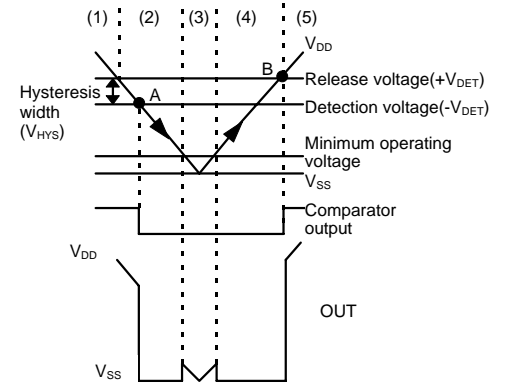

Figure 14
Hysteresis width is the voltage difference between a device's detection voltage and its release voltage (see Figure 14. V_{HYS}=B-A). By giving a device hysteresis, erroneous toggling of the output due to noise at the input is avoided.
- (3) When V_{DD} falls below the minimum operating voltage, the output becomes undefined. However, output will revert to V_{DD} if a pull-up has been employed.
- (4) V_{SS} will again be output when V_{DD} rises above the minimum operating voltage. V_{SS} will continue to be output even when V_{DD} surpasses $-V_{DET}$, as long as it does not exceed the release voltage $+V_{DET}$.
- (5) When V_{DD} rises above $+V_{DET}$ (B in Figure 14), the Nch transistor goes OFF, the Pch transistor goes ON, and V_{DD} appears at the output.